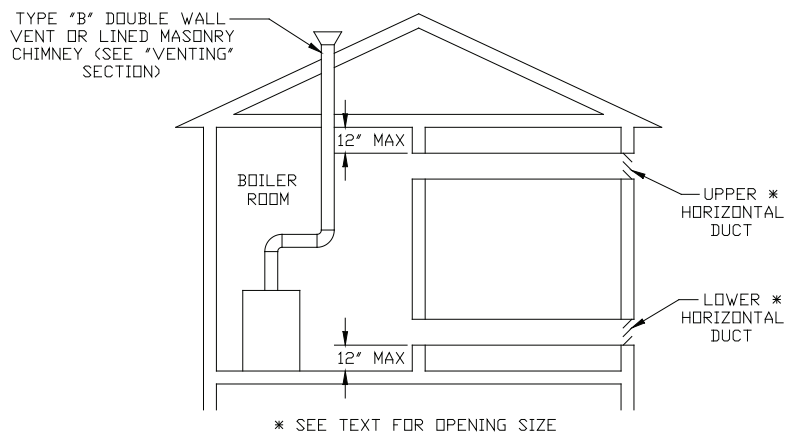

FIGURE 5.5: OUTDOOR COMBUSTION AIR METHOD: USING HORIZONTAL DUCTS INTO BOILER ROOM
- Openings to outdoors via horizontal ducts (Figure 5.5) - Each opening must have a free cross sectional area of 1 square inch per 2000 BTU/hr of the total input of all gas fired appliances in the boiler room. Minimum opening size is 3 inches.